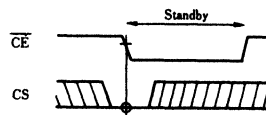

Figure 2-5. CS Standby Mode
**CS Standby Mode:** The HM658128 enters CS standby mode for one cycle if CS turns to low at the falling edge of  $\overline{CE}$  (figure 2-5).